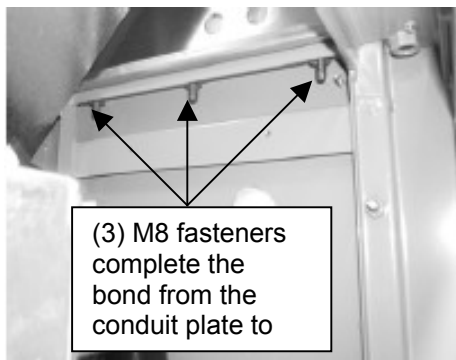

Figure 16: Internal view of Conduit Plate
3. Verify the M8 screws, as seen in Figure 16 are properly connected and secure.